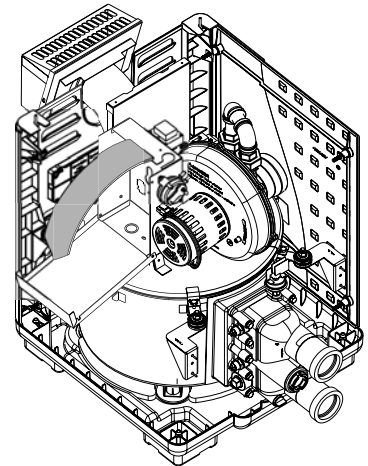

Figure 21.
3. Open control box cover (see Figure 21).